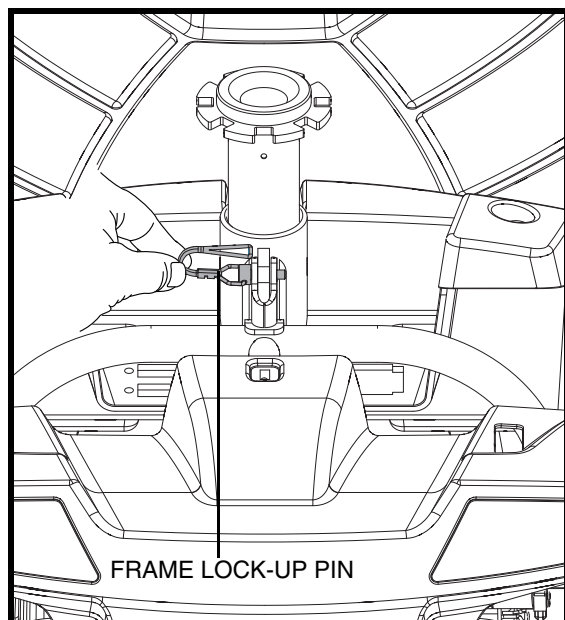

Figure 24. Frame Lock-Up Pin
2. Remove the frame lock-up pin. **See figure 24.**